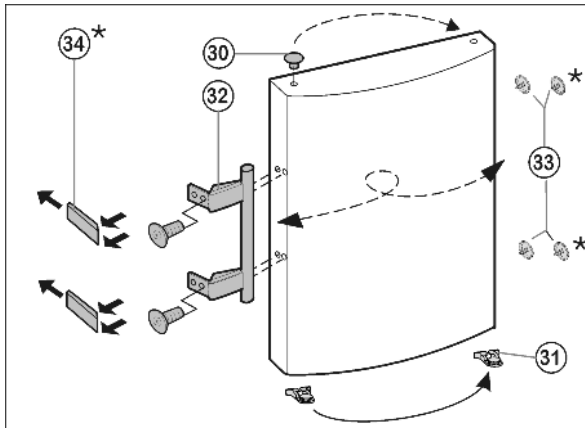

Fig. 7
- ▶ Lift the stopper Fig. 7 (33) out of the door bearing bush and transfer it.
- ▶ Dismantle the door handle Fig. 7 (32), stoppers Fig. 7 (33) and pressure plates* Fig. 7 (34) and transfer to the opposite side.